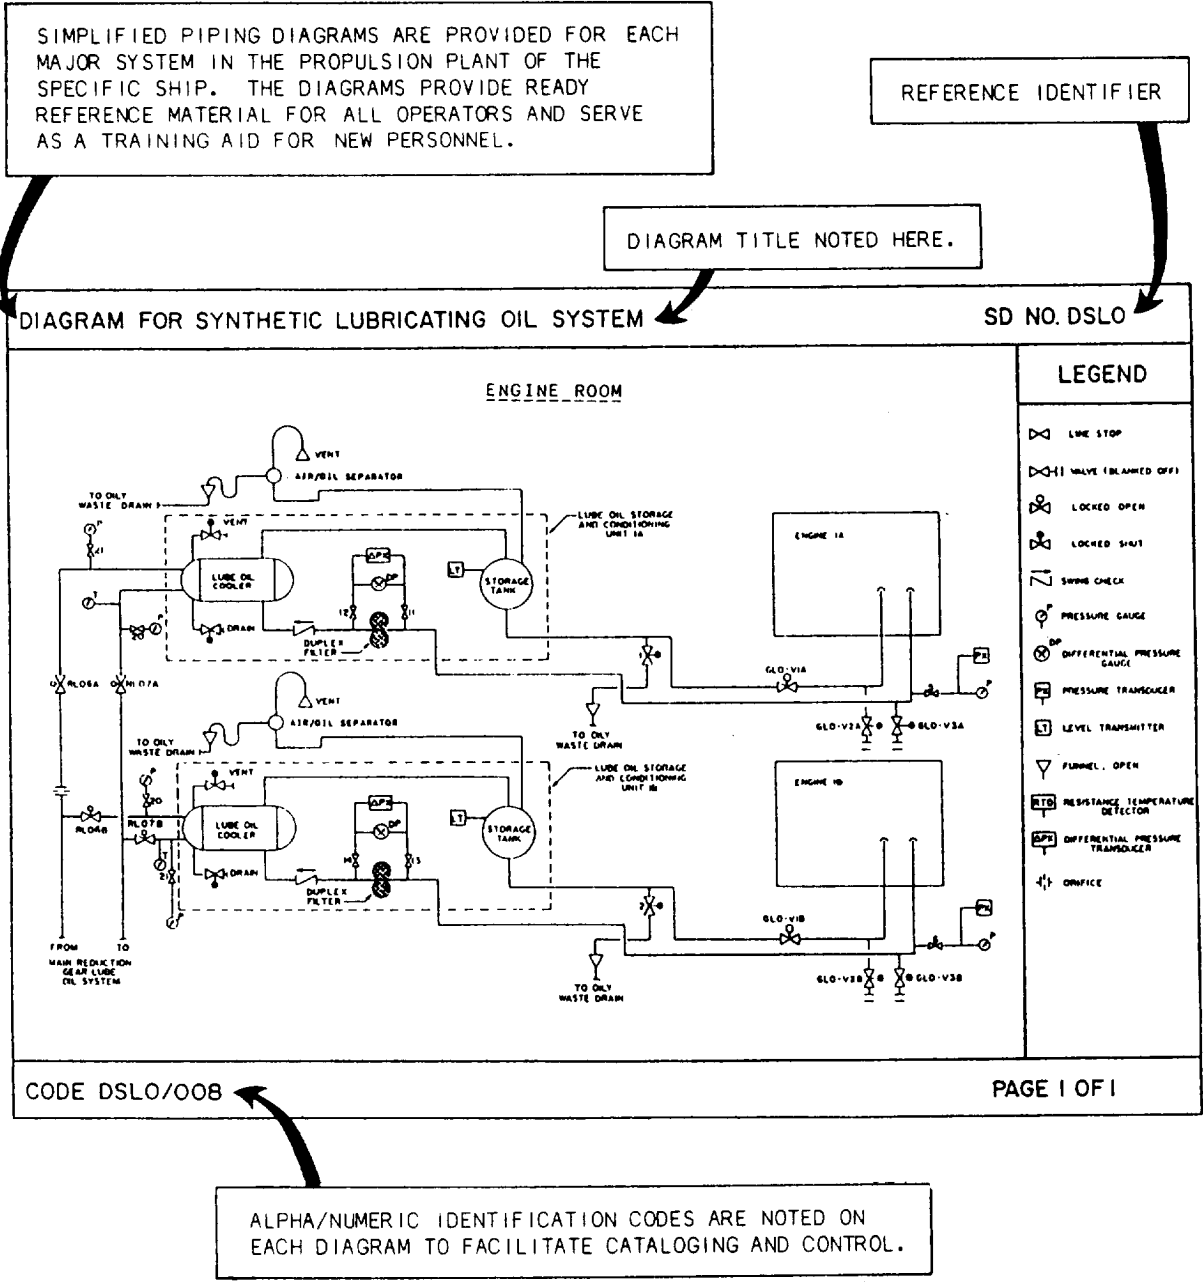

Figure 1-7.—Sample training diagram.
- Training diagrams (fig. 1-7) outlining each major piping system to aid in plant familiarization and training of personnel. These diagrams indicate the relative locations of lines, valves, and equipment.